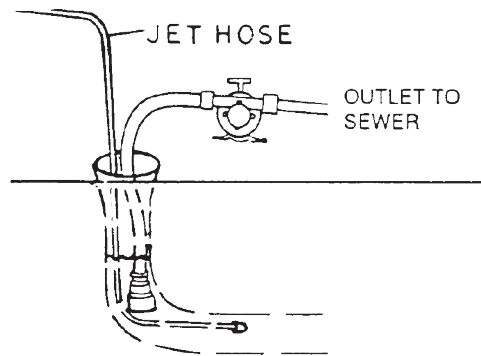

Fig. 9
15. In those rare instances where backflow is created, a bilge pump may be used (see Fig. 9).